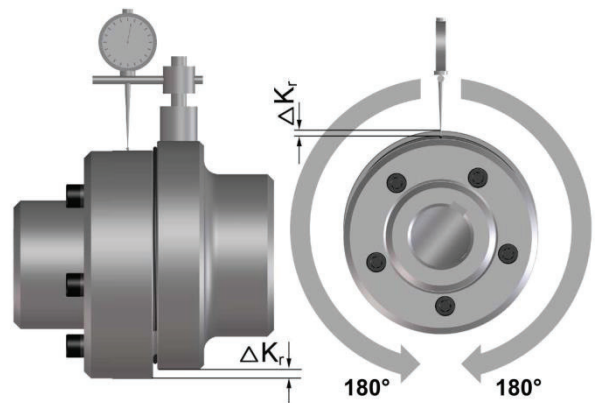

Fig. 15
- ❑ Calibrate one entire rotation (360°). Determine the largest deviation ΔK_{r1} as well as the smallest deviation ΔK_{r2} (Fig. 15). Calculate the radial misalignment $\Delta K_r = 0.5 \times (\Delta K_{r1} - \Delta K_{r2})$.